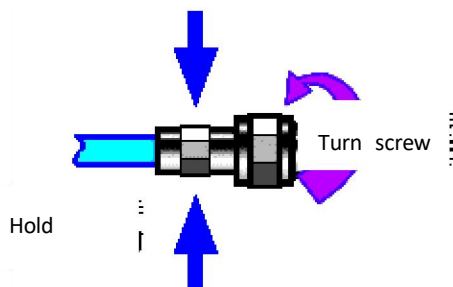

Figure 3.5 Rotary connector diagram
Step 2: as shown in Figure 3.5, move the two connectors leveled together so that they can be smoothly engaged. Rotate the screw sleeve of the connector (note, not the rotating connector itself) until it is tightened, and there can be no relative rotational movement between the connectors during the connection.